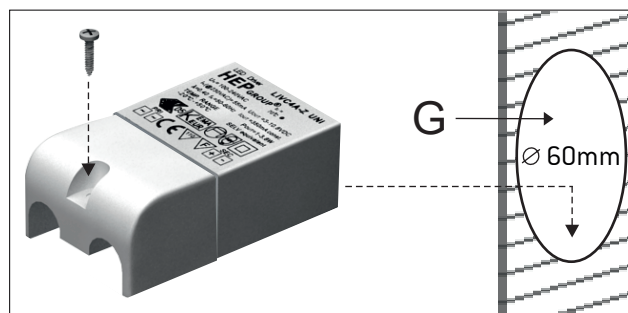

Figure 3
- 3 - Attach again the cover to the driver. Ensure that the hole in the wall (G) measures a minimum \varnothing of 60mm and leave the driver inside the hole. Figure 3.